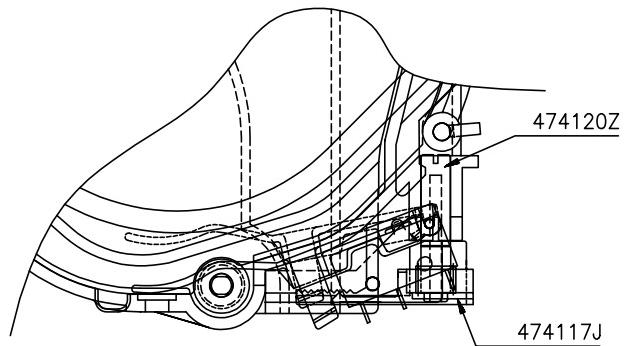

Figure 6-4
**PR4:** Position the microswitch support half way along the total run using the tab regulator code 474120Z (Fig. 6-4) or according to the client's requirements.